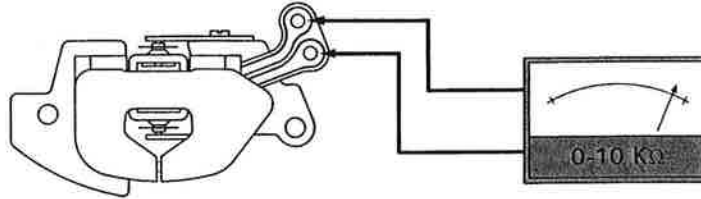

Fig. 14
9.11. Measure the resistance of the coil which must range between 1200-1500 Ω (Fig. 14).